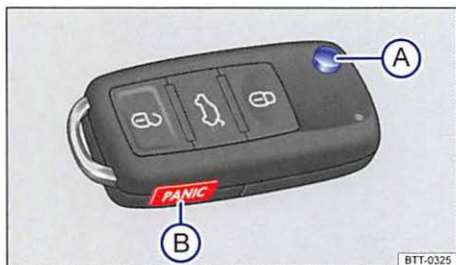

Fig. 12 Vehicle key with panic button.
Pressing button ⇒ page 34, fig. 12 (A) releases the key bit.